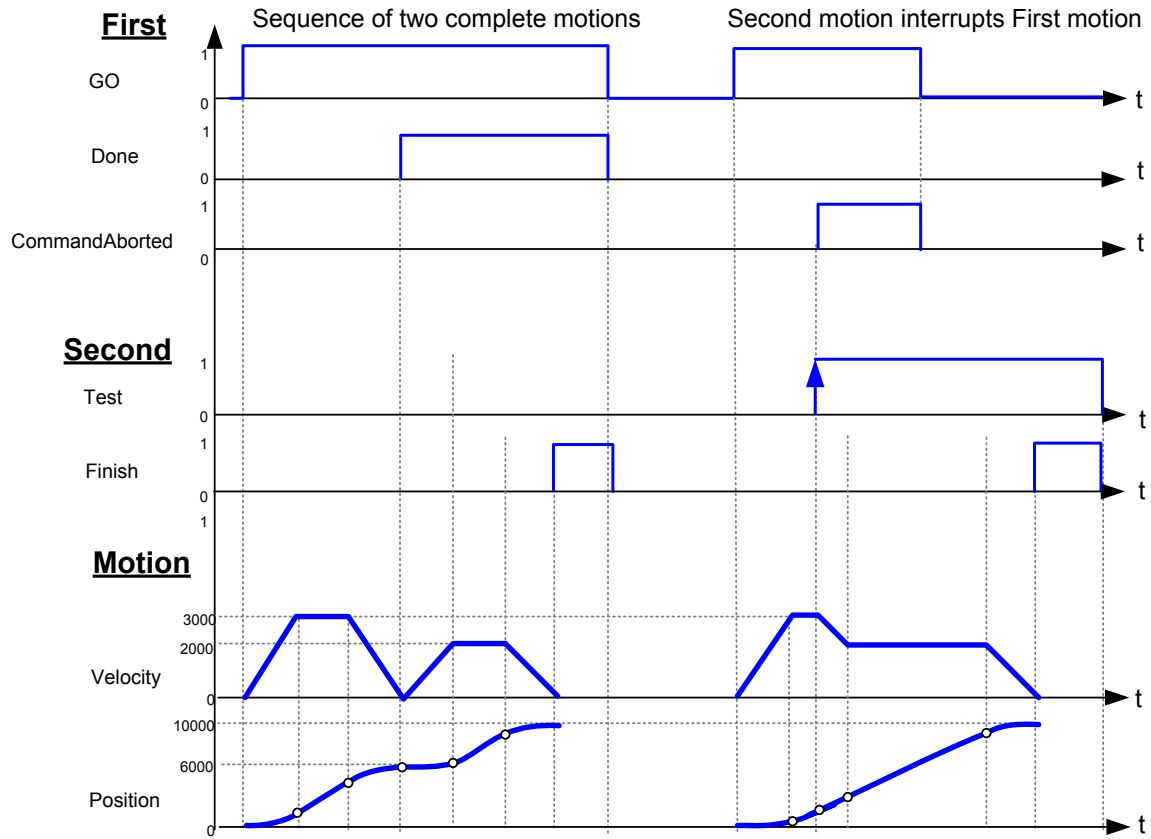

Figure 5-32: Timing diagram for MMC\_MoveAbsolute – Example
1. The left part of timing diagram in **Figure 5-32** illustrates the case where the second function block is called after the first one. If the first block reaches the commanded position of 6000 (and the velocity is 0) then the output Done causes the Second function block to move to the position 10000.